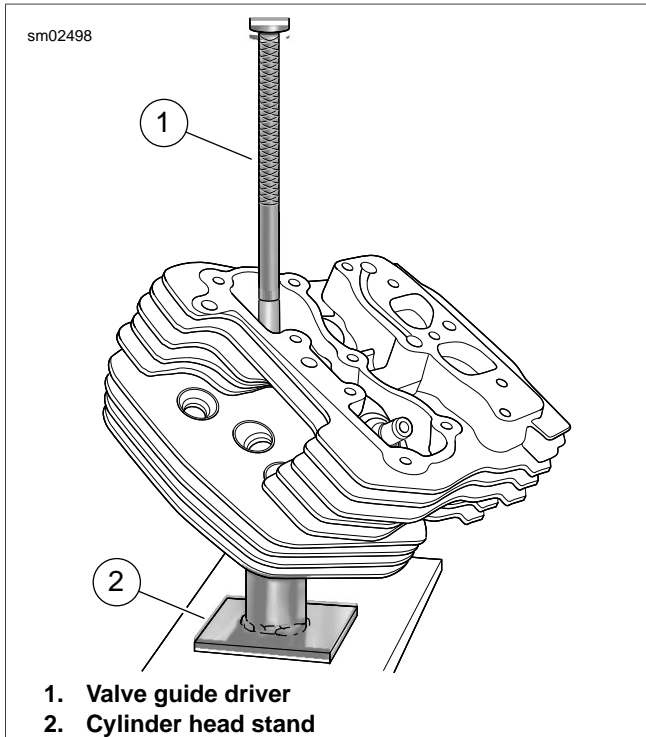

Figure 3-84. Remove Valve Guide
3. At top of the cylinder head, insert VALVE GUIDE DRIVER (Part No. B-45524-1) (1) into valve guide bore until stopped by shoulder.
4. See Figure 3-84. Center valve guide driver under ram of arbor press. Apply pressure until valve guide drops free of cylinder head. Discard valve guide.